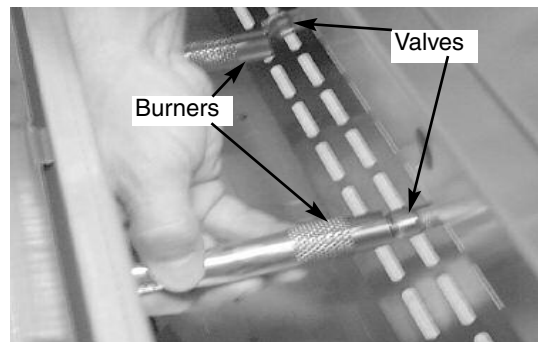

Fig 20
23. Line up the burners with the valves on the manifold, making sure they are level. (See Fig. 20 & 21)